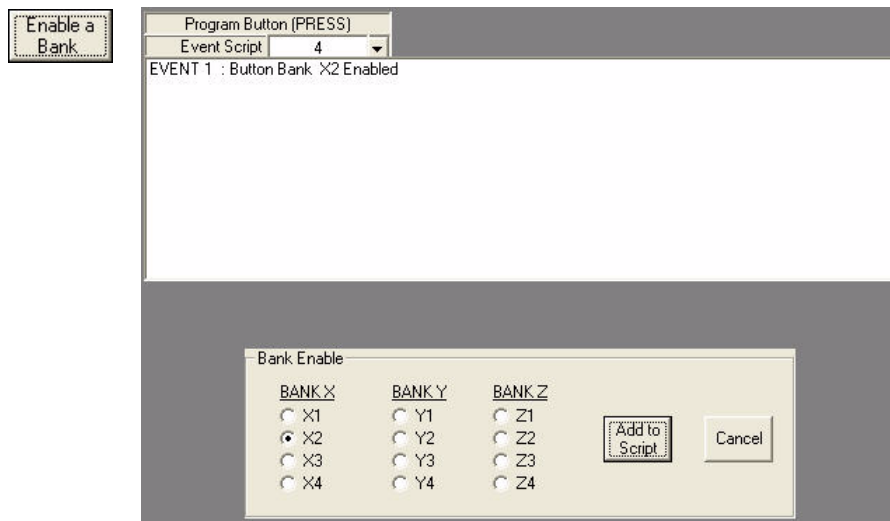

FIG. 107 Button 4 - Button Bank X2 Enabled
16. Click on **Enable a Bank** in the Command Bar; select **X2** and **Add to Script** (FIG. 107).